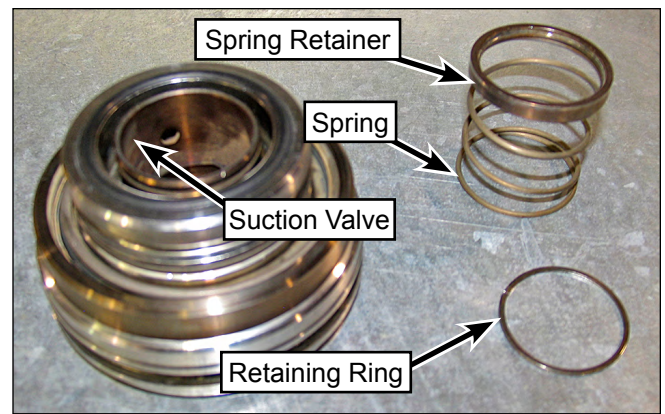

Figure 82: Remove Retaining Ring and Spring.
4. Remove the suction valve spring retainer and valve spring (Figure 82).